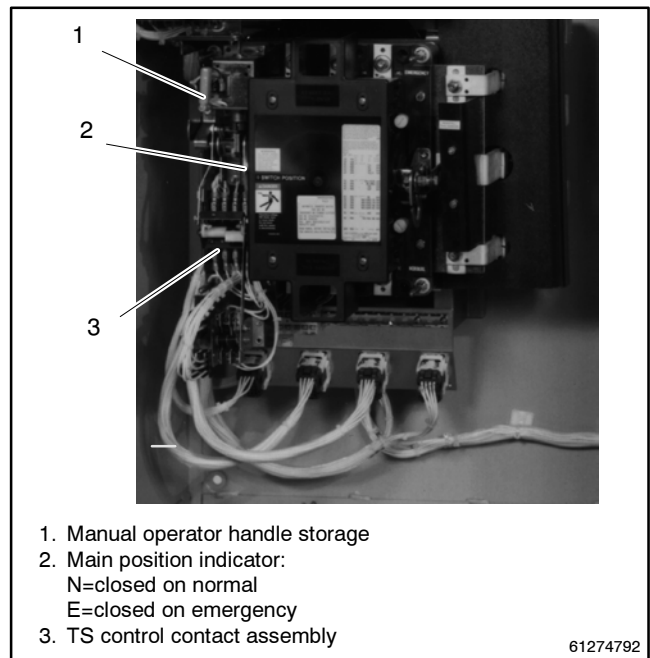

Figure 7-7 Control Contact Assembly Location
2. Locate the TS control contact assembly. See Figure 7-7.
- If adjustment of contacts 71-72 and 9-8 is necessary, refer to Figure 7-10. Make sure the main contacts of the transfer switch are closed on emergency (see position indicator in Figure 7-7). Use the manual operator handle, if necessary, to move the switch to the emergency position. Loosen the #8-32 hex nut that unlocks the drive bracket from the cam adjustment slot on the right side of the assembly. Rotate the cam until its top edge is within 7.1 mm (9/32 in.) from the side of
- If adjustment of contacts 69-70 and 7-6 is necessary, refer to Figure 7-11. Make sure the main contacts of transfer switch are closed on the normal side (see position indicator in Figure 7-7). Use the manual operator handle, if necessary to move the switch to the normal position. Loosen the 8-32 hex nut that unlocks the drive bracket from the cam adjustment slot on the left side of the assembly. Rotate the cam until its bottom edge is within 7 mm (9/32 in.) from the side of the drive bracket. Retighten the locking nut and verify adjustment as described in step 4, sections a and b.